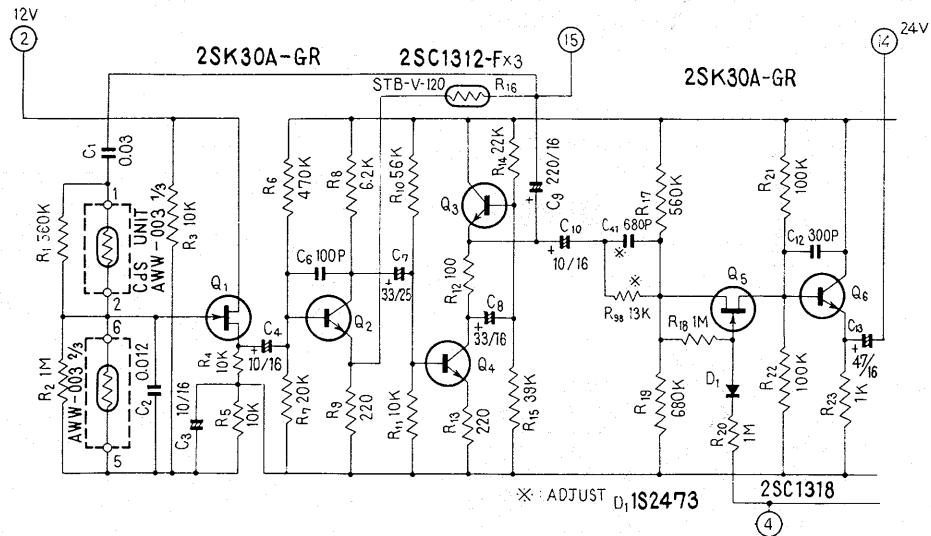

Fig. 38
2. Adjust a value, as shown in Fig. 38, within a range of $0 \sim 15\text{k}\Omega$ so that output level from the OSCILLATOR OUTPUT becomes 2. 2V.